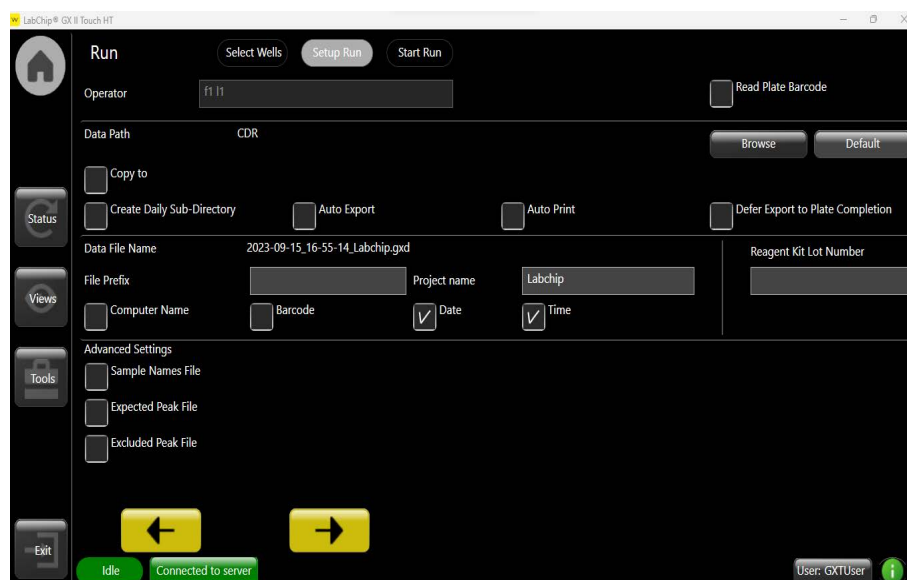

Figure 10. Run setup screen.
- 3 In the *Setup Run* tab, select the operator name, the option to read barcode, the destination of the file, the inclusion of sample names, expected peaks, and excluded peaks and the filename convention. Select *Auto Export* to export results tables automatically (Figure 10). Touch the *green arrow* button.